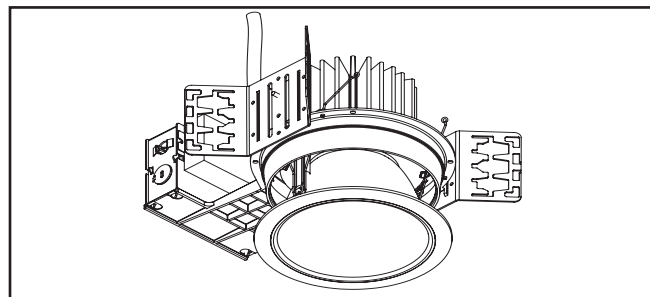

Figure 9
8. Install the LED engine and trim assembly by inserting the torsion springs into the spring receivers located inside the housing (Figure 9.).